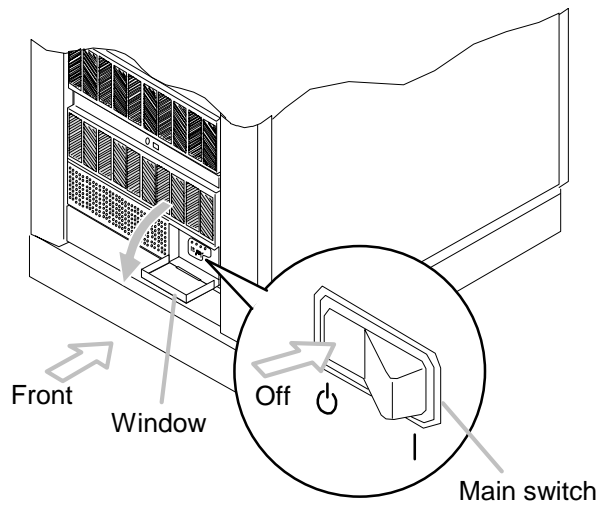

Figure 4.9 Location of Main Switch
1. Turn off the main switch. (see figure 4.9)
2. Insert the key attached to the equipment in the keyhole of the RK front bezel. Turn the key 90° clockwise for unlocking.